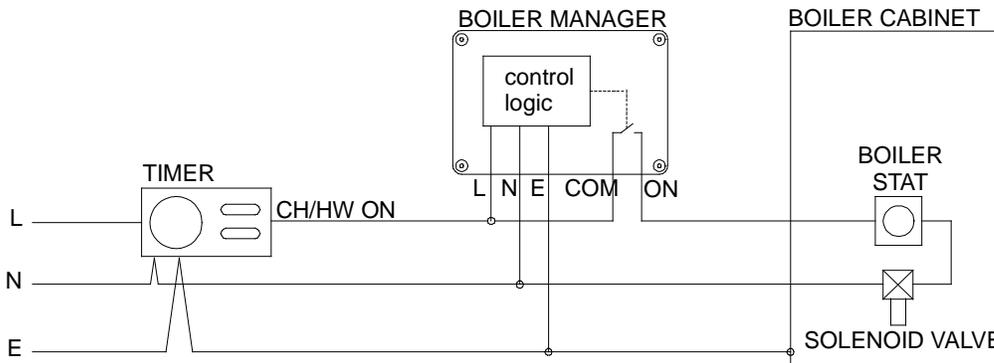

FIGURE 3: WIRING DIAGRAM (INLINE CONFIGURATION)
- If the existing control system has a power connection directly from the timer/programmer to the gas valve/boilerstat inside the boiler cabinet and nothing else inside the cabinet, the Boiler Manager can be installed 'in-line'. See the wiring diagram in Figure 3.